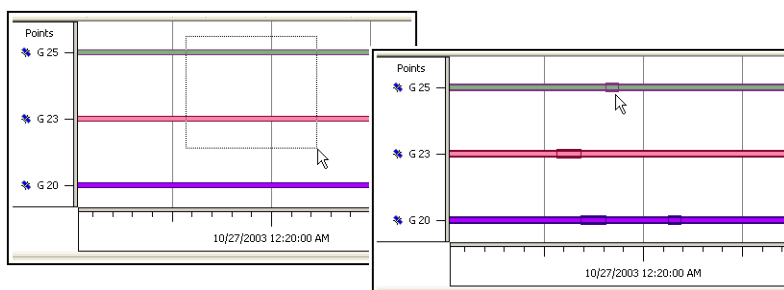

Figure 6-6. Selecting Epochs
2. Either drag a square around an epoch or click a satellite's epoch (Figure 6-6 on page 6-8) to select the desired epoch(s) and time interval(s).